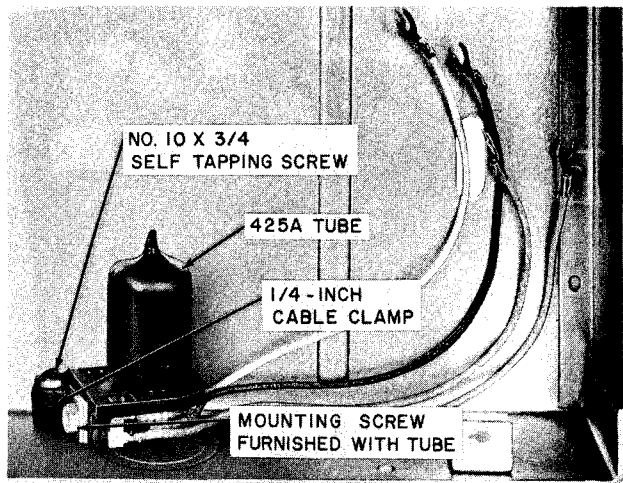

Fig. 8—Installation of Cold-Cathode Tube in Apparatus Box
- To install in an apparatus box, obtain a 1/4-inch Tinnerman clamp and a No. 10 X 3/4-inch long self-tapping screw. Secure the clamp to the tube base using the mounting screw furnished with the tube. Insert the self-tapping screw through the cable clamp loop and fasten tube to the apparatus box using an existing nailing hole or a hole drilled at required location (Fig. 8).